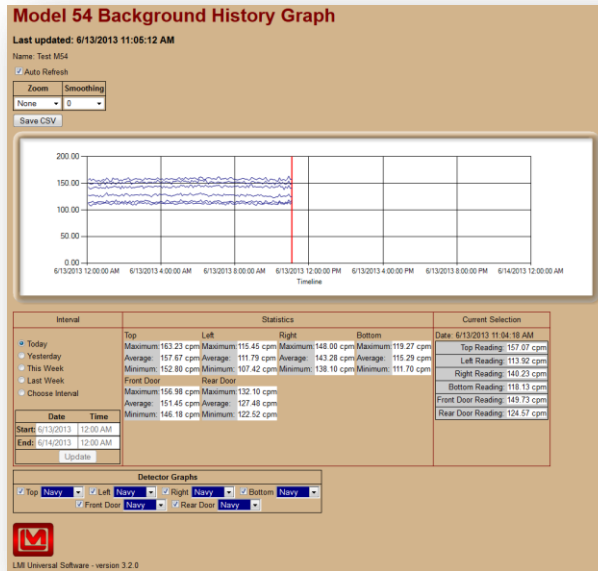

Figure 31 – Graph
- **Background Graph:** Click on this to go to the Device specific Background Graph (see Figure 31).
See Figure 31 for a screen shot of the Graph page.